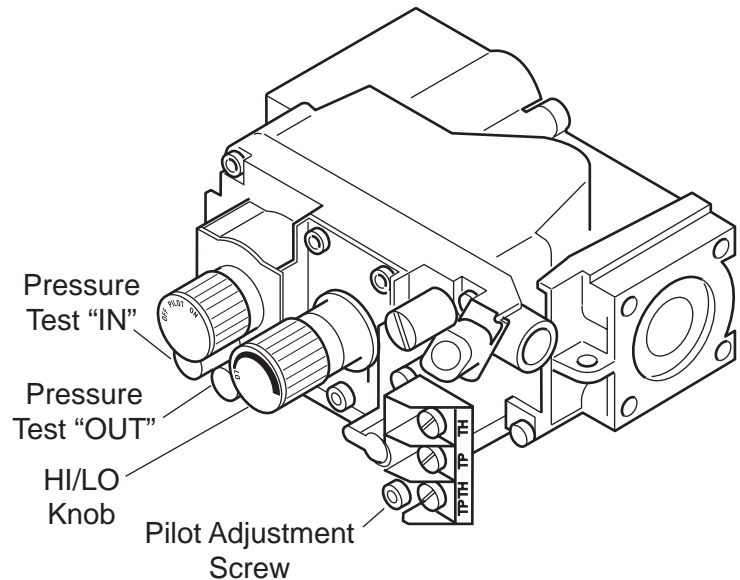

Figure 41 - Gas Pressure Check at Gas Valve
5. To check gas pressures at valve, turn captured screw counter clockwise 2 or 3 turns and then place tubing to pressure gauge over test point. Turn unit to high. *See Figure 41.* After taking pressure reading, be sure and turn captured screw clockwise firmly to reseal. Do not over torque. Check test points for gas leaks.